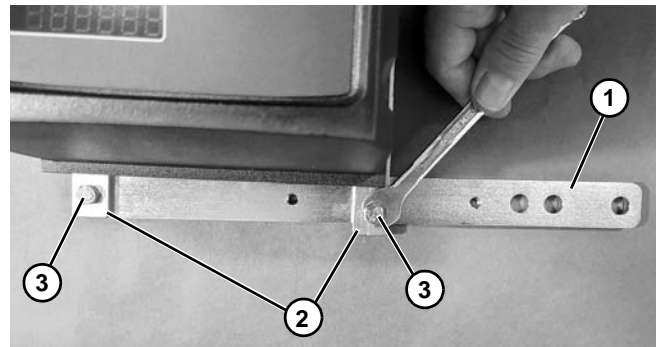

Figure 25
2. Attach controller mount plate (Figure 25, item 1) to mounting plates (Figure 25, item 2) with screws (Figure 25, item 3).